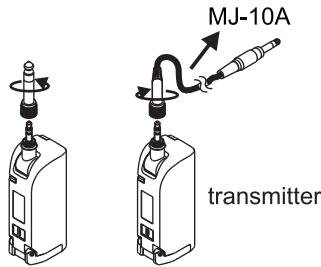

Fig. 11-1 Fig. 11-2
- (A) Remove the 6.3 Ø input phone plug adapter from MT-58, Fig. 11-1.